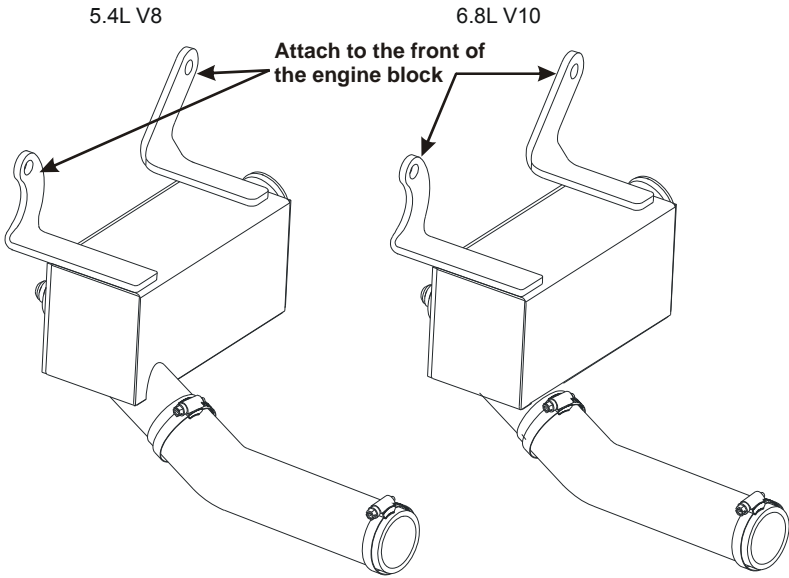

Figure 3.1
- Fit the cooler in place under the crankshaft pulley, over the two studded fasteners at the front of the engine block (Figure 3.1).